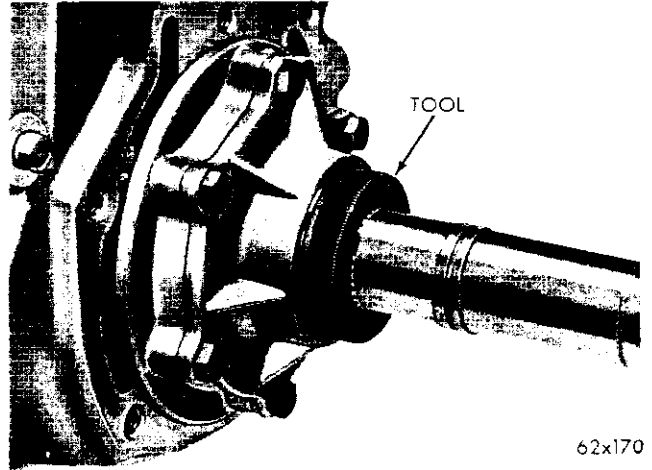

Fig. 43—Aligning Oil Pump Cover
- (3) Install the oil pump cover with the retaining bolts threaded in a few turns. Slide the aligning fixture Tool C-3864 all the way in until it bottoms against rotors (Fig. 43). Tighten the cover bolts evenly to 140 inch-pounds torque.
- (4) Install the governor and support assembly.
- (5) Install the extension housing, and parking brake.
- (6) Connect the parking brake cable.